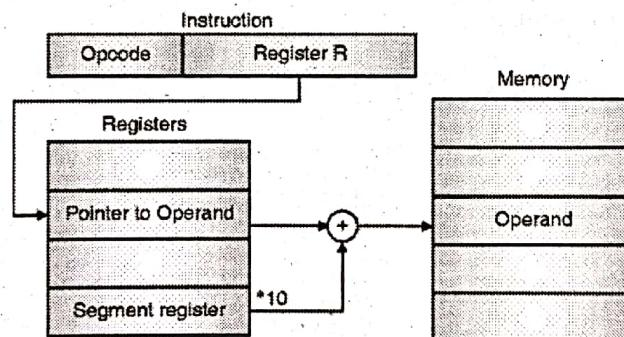

Fig. 6-Q. 6(b) : Register indirect addressing modes
- In this addressing mode the effective address is given by a base register or an index register, specified in the instruction. This effective address is added with the segment register * 10H to generate the physical address as shown in Fig. 6-Q. 6(b).